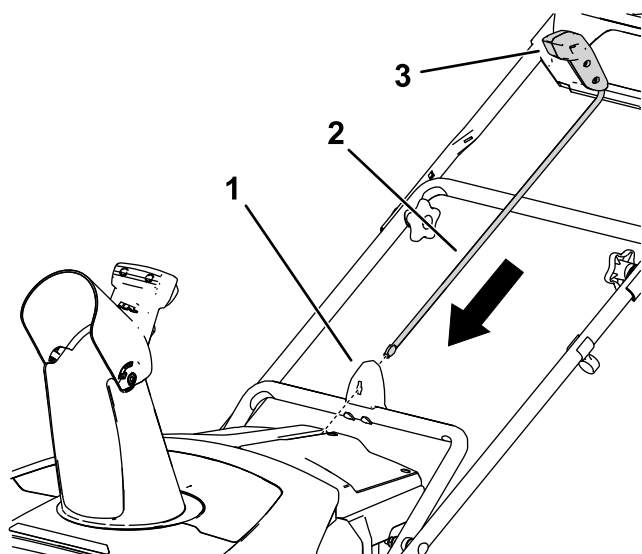

Figure 7
1. Ensure that the chute is facing forward (Figure 7).
2. With the handle facing forward, install the chute-control rod into the guide and push it down until it snaps into place (Figure 7).